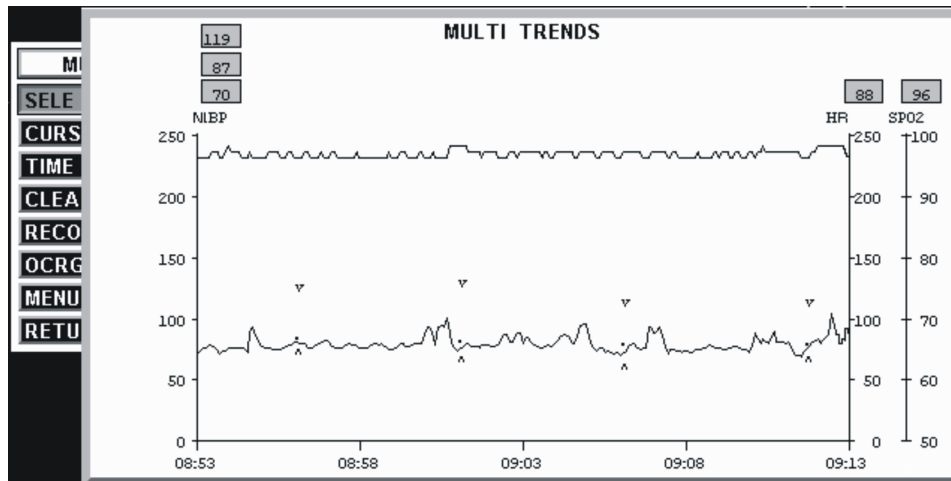

Figure 5-7. The MULTI TRENDS Menu
The following items are displayed on the Multi-Trends Graph Screen (See **Figure 5-7**):
- c. From one (1) to four (4) Patient Parameters.
5.5.3 Trend Options. The Trend Screen is identical for all parameters. The following description of the menu options available in the **MULTI TRENDS** Menu (See **Figure 5-7**) uses specific parameter trends for reference, but applies equally to all other trends.
- (1) **NIBP Trend Display.** (See **Figure 5-7**) Since NIBP is not a continuous reading system, when selected the NIBP Trend Display is different from the other trend displays. The NIBP Trend Display consists of a set of three symbols display positioned at the time location when the reading was performed: the top symbol is a V and indicates the NIBP Systolic Value, the middle symbol is a black dot and indicates the NIBP Mean Value, the bottom symbol is an upside down V and indicates the NIBP Diastolic Value.